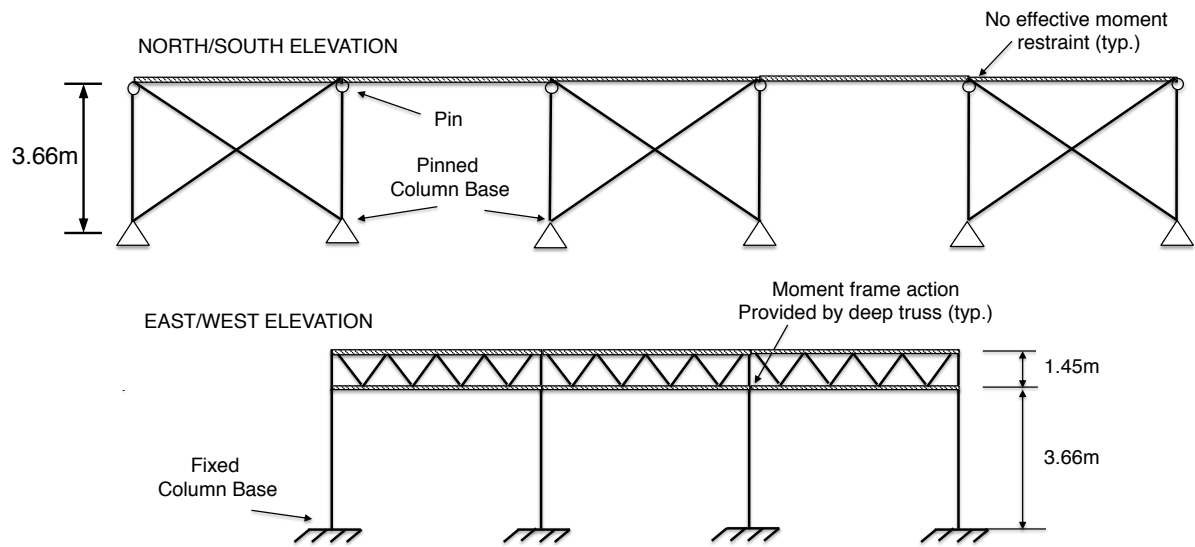

Figure 1. Single-storey industrial building
The single-storey steel industrial building shown in Figure 1 can be idealized as a single-degree-of-freedom (SDF) system in each of its principal orthogonal directions. The columns are all I-shaped steel cross-sections ($E = 200GPa$) that are fixed at their base and connected to a roof truss system at the top. The second moments of area of the I-shaped cross sections are $I_x = 34.4 \times 10^{-6} m^4$ and $I_y = 7.64 \times 10^{-6} m^4$. The roof truss has a flexural stiffness that is significantly greater than that of the columns in the direction where the columns bend about their strong axis (assumed as fixed at the base) but has negligible flexural stiffness in the direction where the columns bend about their weak axis (assumed as pinned at the base). In addition, in the two perimeter frames in the east-west (EW) direction, slender X-braces, made of 25-mm-diameter circular steel rods, are installed in three bays (a total of six braces per braced perimeter frame; only the ones in tension contribute to the lateral stiffness). The total dead load acting on the roof of the structure is equal to 1.06kPa while the total dead load acting on the perimeter walls is equal to 0.48kPa.